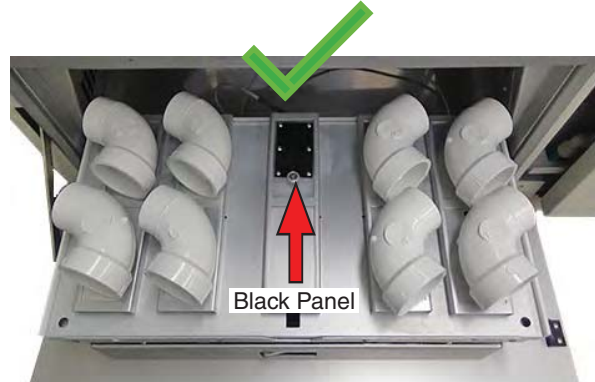

Figure 11.4d: Black panel must be uncovered.
- Mount three dimensional specimens far enough away from the black panel to avoid casting a shadow on it (Figure 11.4d).